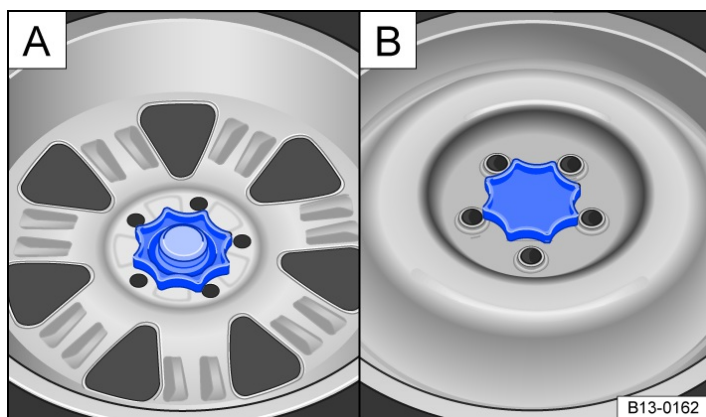

Fig. 1 In the luggage compartment: **A**: handwheel for securing spare wheel, **B**: handwheel for securing temporary spare wheel.
- Fully unscrew the handwheel in the middle of the spare wheel → Fig. 1 A or temporary spare wheel B anticlockwise.